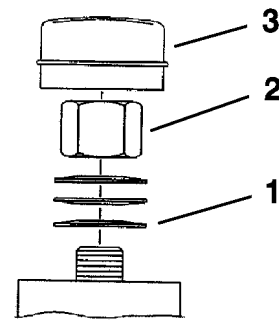

Figure 46
3. Remove the dust cap from caster and tighten lock nut (Figure 46).
4. Tighten the locknut until the spring washers are flat and then back off a 1/4 turn to properly set the pre-load on the bearings (Figure 46).
Important: Make sure spring washers are installed correctly as shown in Figure 46.
5. Install the dust cap (Figure 46).